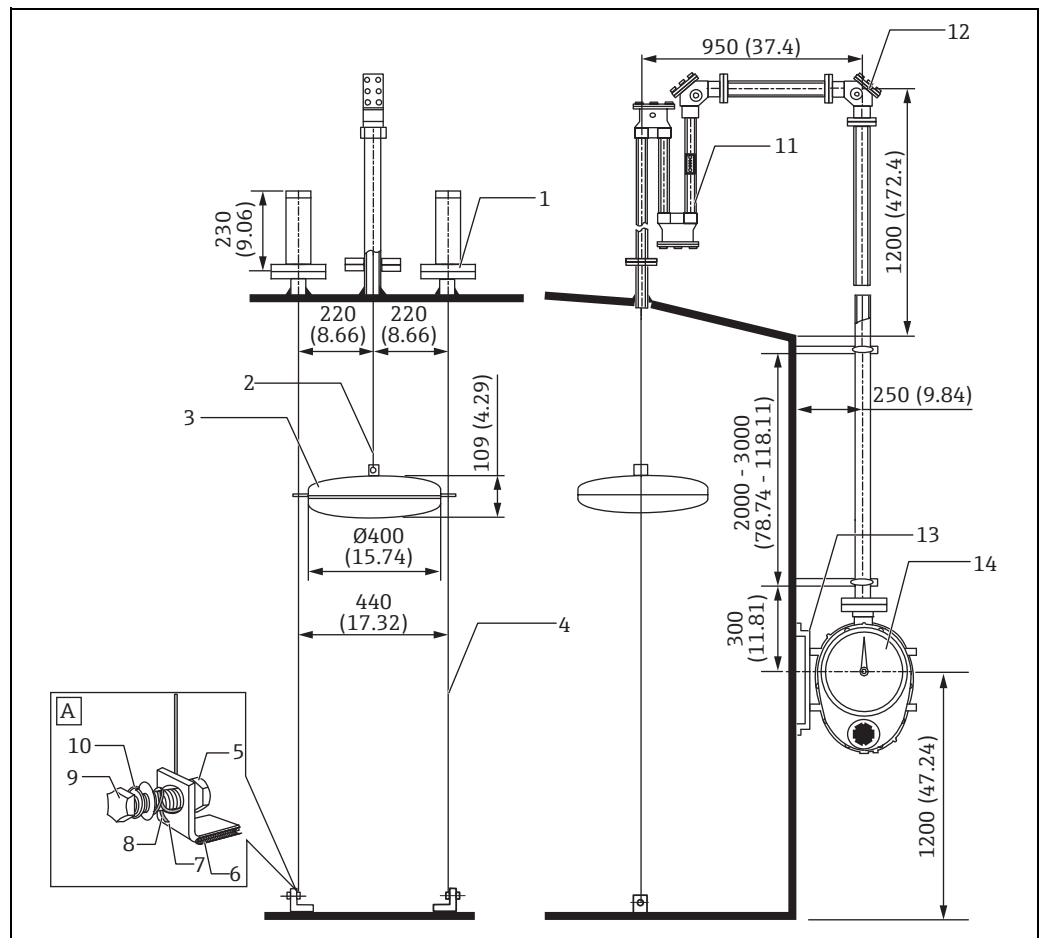

Figure 22: Cone roof tank with seal pot
- Set the position of the joint part C in figure 22 to be approximately level 10 mm (03.93 in) below the sheave elbow when the liquid level is zero and approximately 100 mm (3.93 in) above the gauge head when liquid is full.